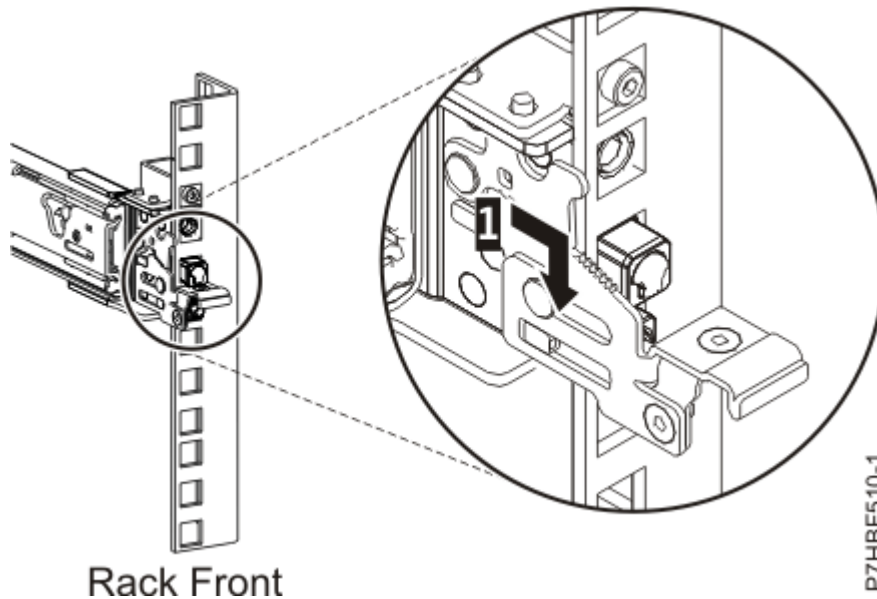

Figure 5: Pins that are seated on the front rail of the rack
6. Pull the slide rail forward and insert three pins on the front of the rail into the holes within the selected EIA unit that were previously marked. Lower the slide rail down **(1)** to engage the hook feature on the middle pin. For details, see Figure 5 on page 6.